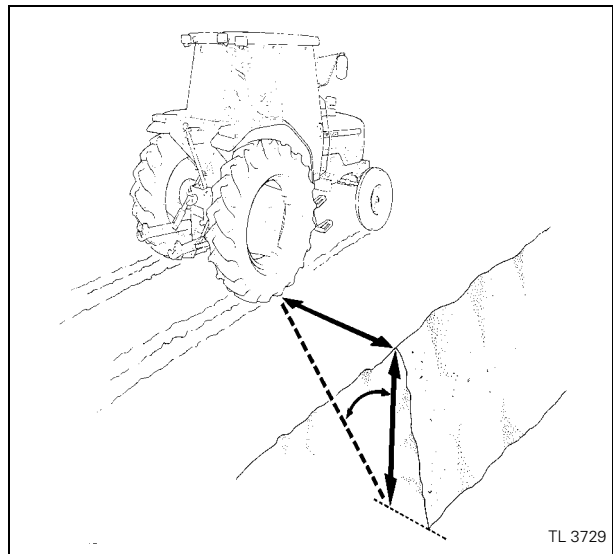

Fig. 17
- Avoid crossing steep slopes if possible. If you must do so, avoid any holes or depressions on the downhill side. Avoid any stumps, rocks, bumps or raised areas on the uphill side. When operating near ditches and banks, always keep your tractor behind the shear line (A, Fig. 17). Avoid ditches, embankments and river-banks which might cave in.